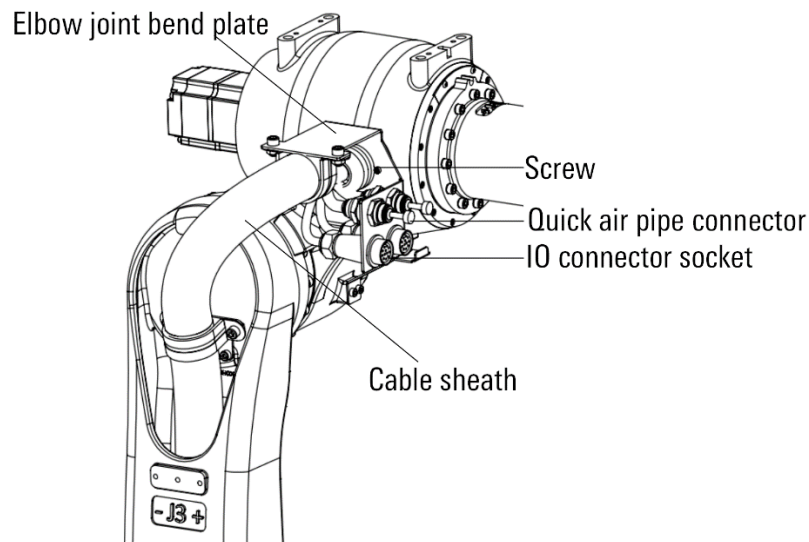

Figure 12-3 Cable inside elbow
Step1. Disassemble the elbow joint bend plate, as shown in Figure 12-3..